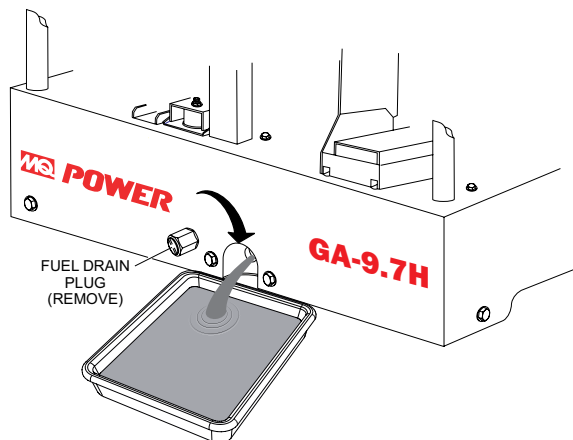

Figure 46. Draining Fuel Tank
1. After prolonged use, water and other impurities accumulate in the bottom of the tank. Occasionally, inspect the fuel tank for water contamination and drain (Figure 46) the contents if required.